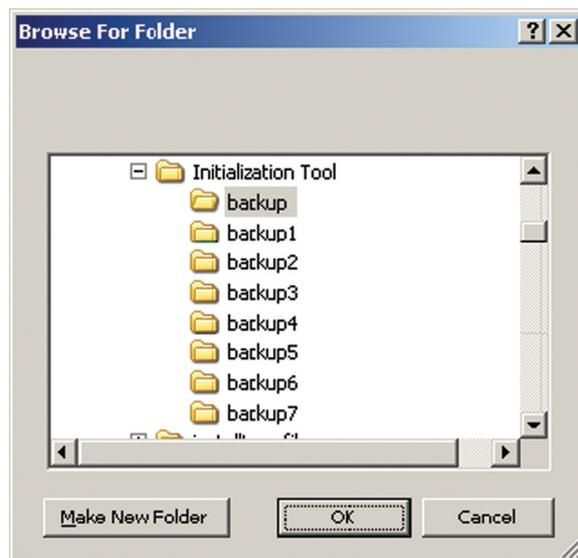

Fig.225 [Browse For Folder] screen
- 5 Specify a backup folder. (Fig.225)